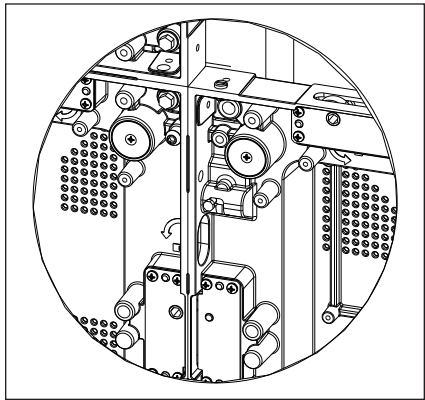

Figure 15: Engage Alignment Pin
3. Release the side alignment pins at connection and allow the pins to slide into the recesses of the other panel. Refer to **Figure 15**.